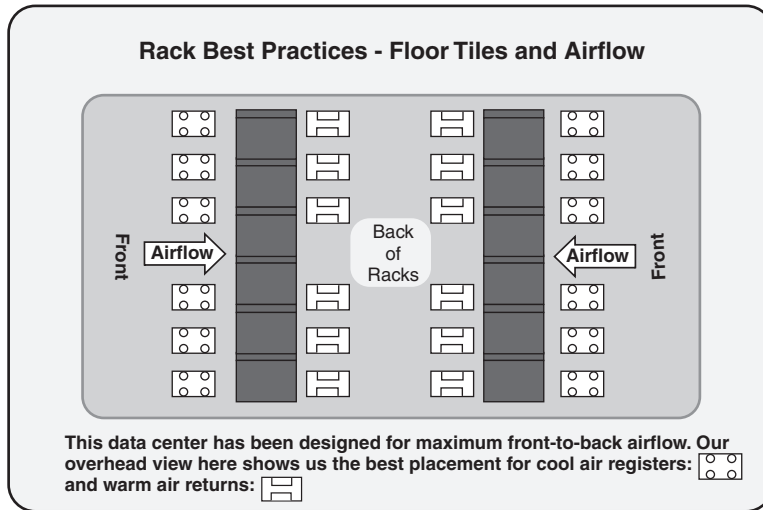

FIGURE 10.3 Placement and layout of racks and floor tile airflow registers/returns are key to maintaining proper air temperature in the SAP Data Center.
- It is highly recommended that the racks be arranged in a front-to-front, or back-to-back manner. Picture standing in between two rows of racks that either face toward each other, or face away from each other, and you will understand front-to-front and back-to-back, respectively. For maximum front-to-rear airflow, the *air registers* (the floor tiles with the little holes in them that force out cool air) should be placed in line with the front of the racks. Similarly, air returns located inline with the rear of the racks are a must, too, as you see in Figure 10.3. In the case of bottom-to-top airflow, the air registers are instead placed such that the rack sits on top of them. Are your air registers positioned for the best airflow?